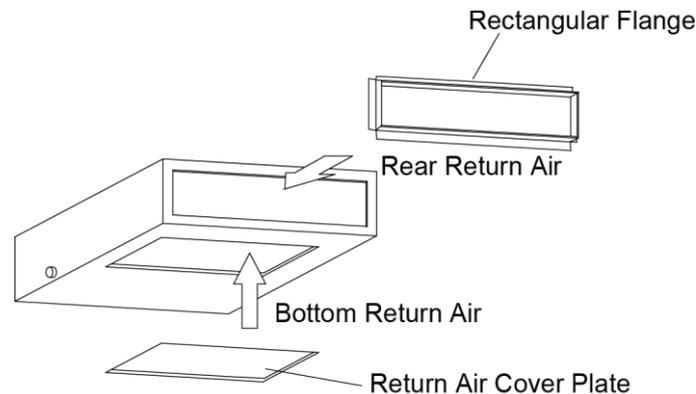

Fig 4.4.7
- (1) The default installation location of the rectangular flange is at the back and the return air cover plate is at the bottom, as shown in Fig 4.4.7.